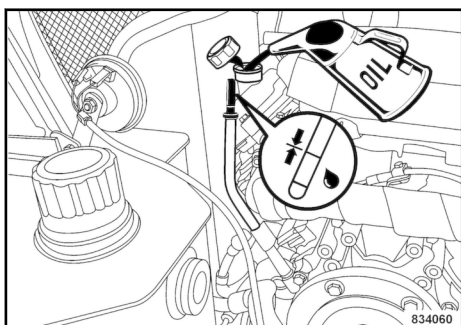

Fig. 172
1. Fill in new engine oil ↪ Fig. 172.